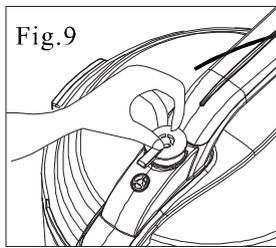

Fig.9
6. Put the pressure limiting valve on the exhaust tube, turn it and ensure the “sealing” and handle position in correspondence with the handle direction, and check and ensure the float valve falls. (See Fig. 9 and 10)